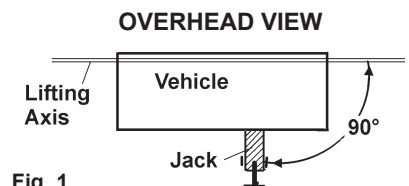

Fig. 1
- 3.2.3 Ensure that the jack is at right angles (90°) to the lifting axis. Refer to Fig. 1.